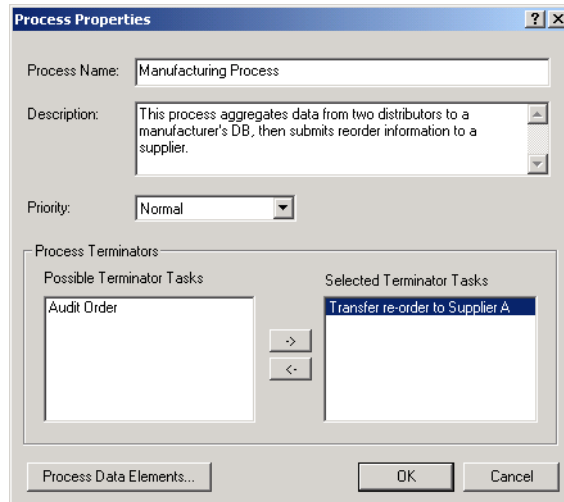

Figure 28-41. The Process dialog box with its terminating tasks defined.
- ❶ To define the process' terminating task, click the toolbar's **Properties** button.
- ❶ Double-click on the Transfer Order to Supplier A entry in the Possible Terminating Tasks pane at the lower left corner of the dialog box. This is now your terminating task. Compare your dialog to Figure 28-41, below.